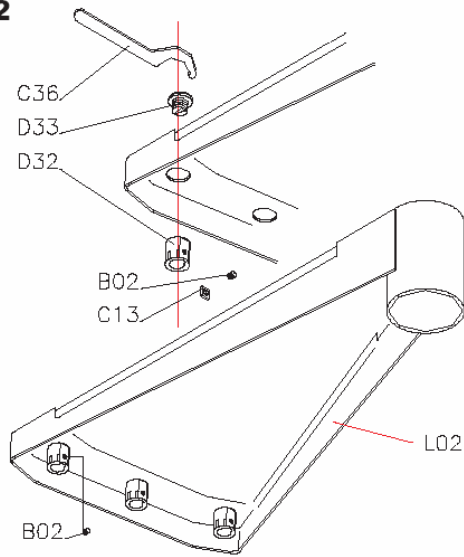

FIG. 3
4. Assemble the parts B65, B66, B67 into the baluster (C03), by using the part B68 (fig. 3).